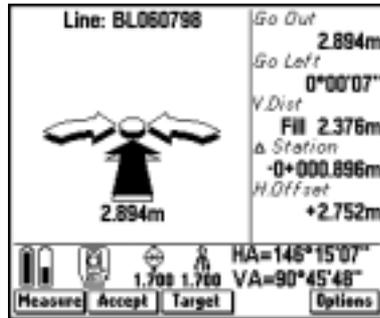

Figure 19.33 Graphical display screen – navigate to line
9. Use the graphical display or the text display to navigate the target to the point, as shown in Figure 19.33. For more information, see Using the Graphical Display During Stakeout, page 504.